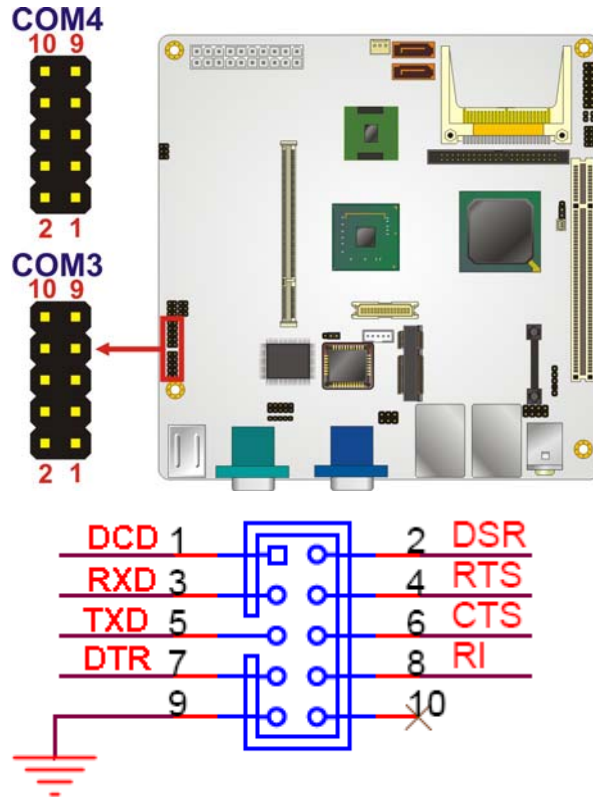

Figure 4-14: RS-232 Connector Pinout Locations
- CN Location:** See **Figure 4-14**